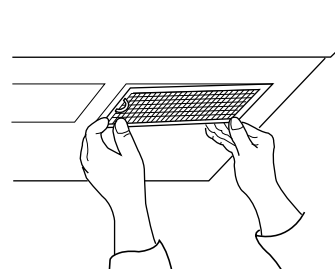

Figure 30
6. Grasp filter screen with one hand holding the ring and the other hand holding the opposite end. Insert the end of the filter screen without ring into the opening and slide towards the side of the microwave oven. Insert ring end of filter screen into the opening and slide entire screen towards the other side of the microwave until screen is securely in position. Repeat for other filter screen. See Figure 30.